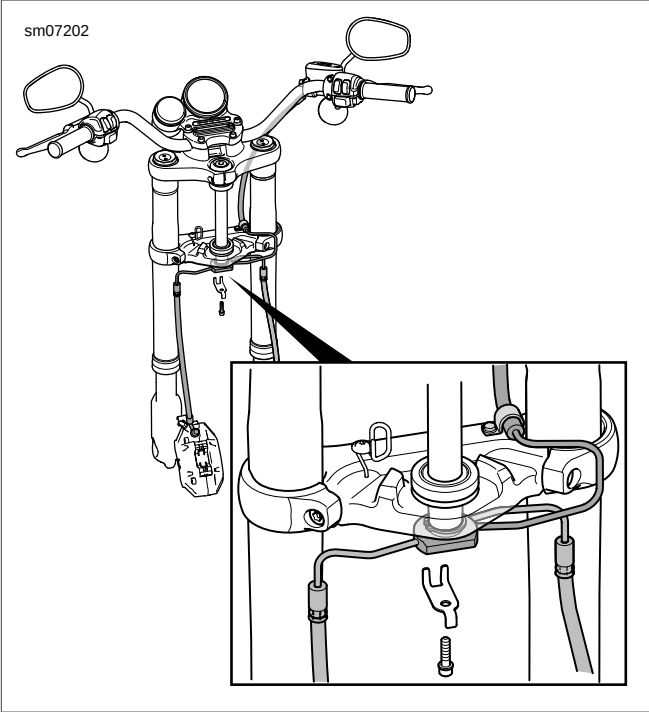

Figure 2-130. Brakeline Routing: XR 1200X
1. See Figure 2-130. Fit the upper clamp to the metal fitting at the top of the single metal tube section.